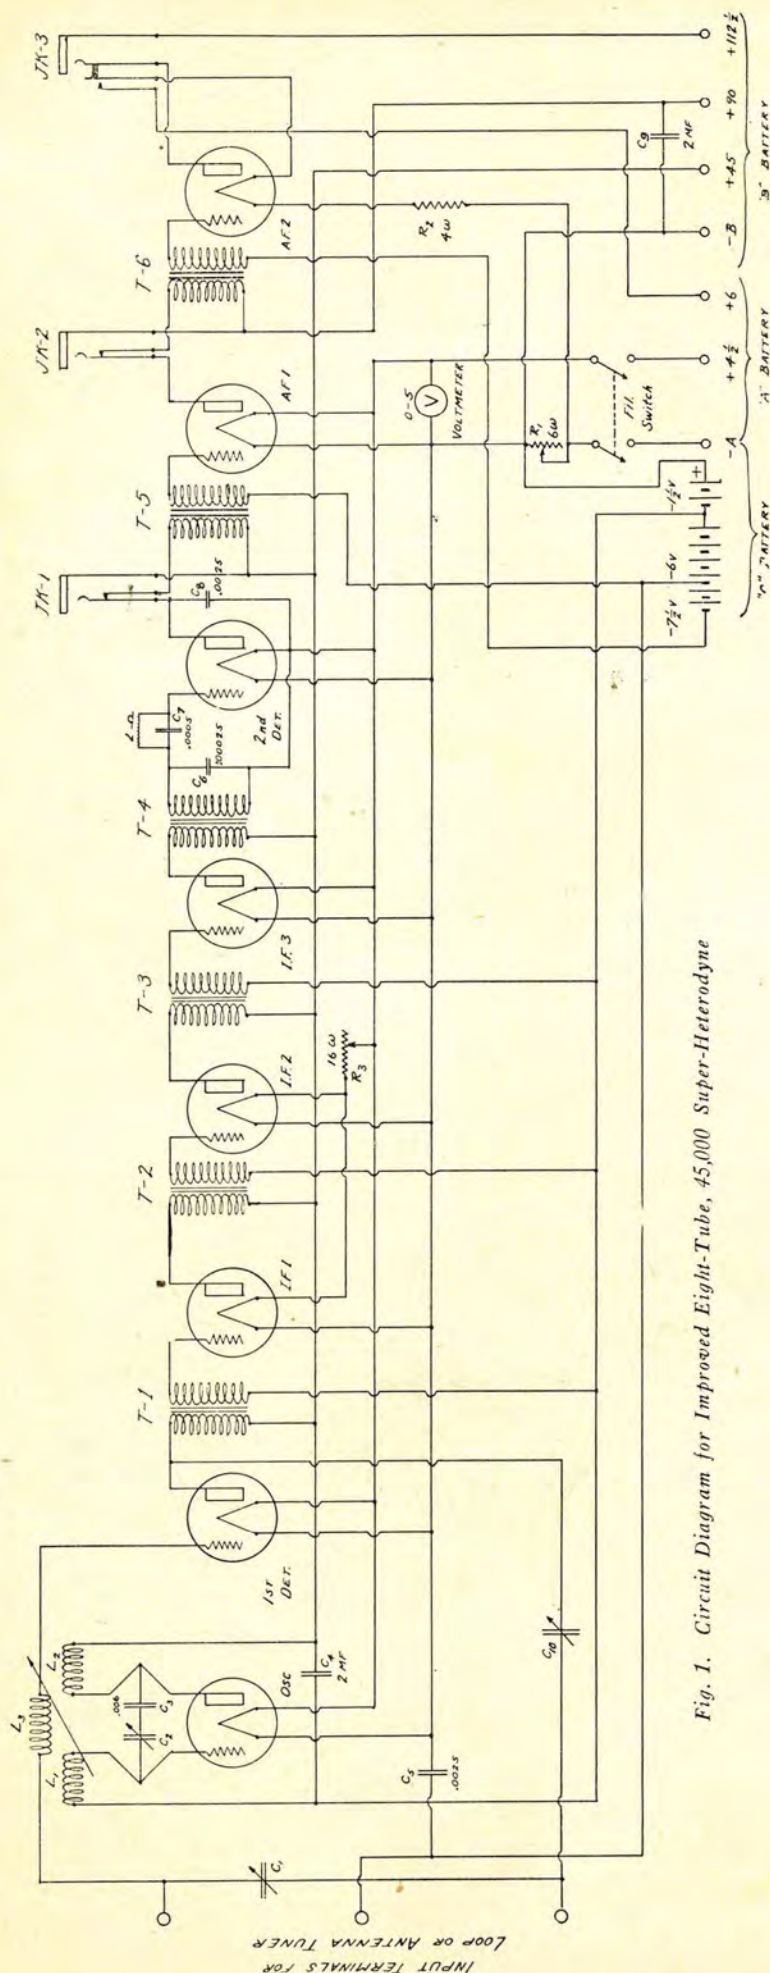

Fig. 1. Circuit Diagram for Improved Eight-Tube, 45,000 Super-Heterodyne
FIG. 1 shows the schematic circuit diagram. It consists of four parts: (1) The local oscillator, for generating the second frequency, and the first detector, which receives the incoming frequency and mixes it with the locally generated frequency (marked OSC and 1st Det. on circuit diagram); (2) Three stages of intermediate amplification, tuned to 45,000 cycles (marked IF₁, IF₂, IF₃ on diagram); (3) The second detector which makes the signal audible (2nd Det.); (4) The audio frequency amplifier permitting the use of a loud speaker (AF₁ and AF₂).